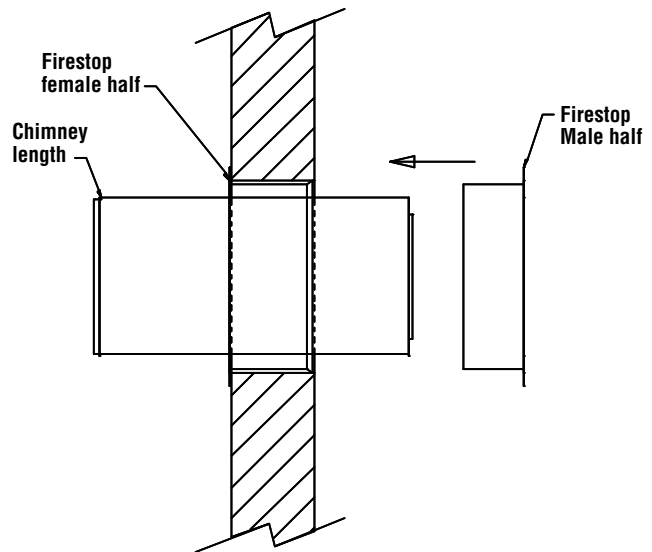

Figure 37 - Wall firestop
2. The wall penetrator (FSW) consist of a firestop female half and a male half that slide in each other to adjust wall thickness from 7.8" to 12.1", see **Figure 37**.